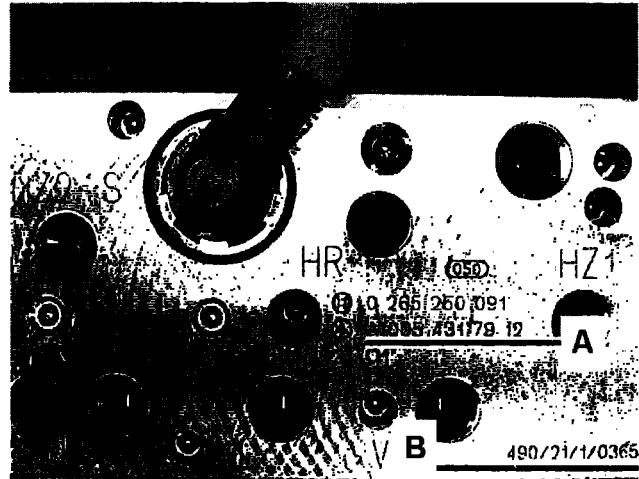

Figure 1
1. Check if SBC hydraulic unit part number (A, Figure 1) is listed in the table below:
- If the part number (A) **is** listed, proceed to step 2.
- If the part number (A) is **not** listed, proceed to step 3.
2. Check (refer to table below) if the production number (B, Figure 1) is within the listed production number range for the relevant part number (A):
- If the production number (B) is **not** within the production number range, proceed to step 3.
- If the production number (B) **is** within the production number range compared to the relevant part number; proceed to Subject **B**, Replacement of SBC Hydraulic unit.
When reading the production number (B, Figure 1) on the SBC hydraulic pump, disregard the slashes.